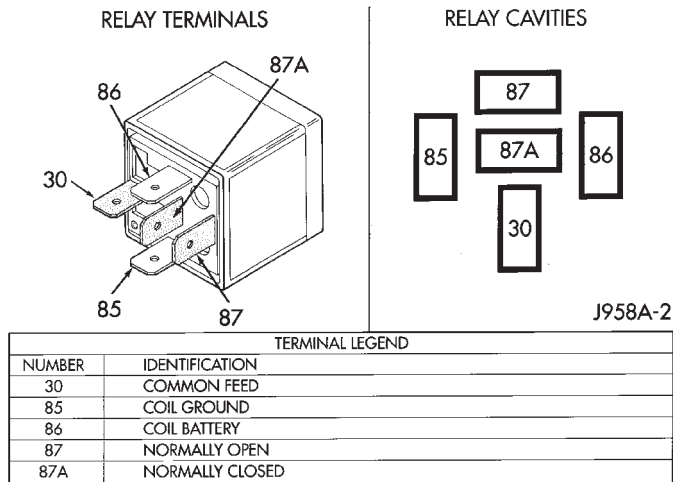

Fig. 13 Type-1 Relay
(14) If equipped with **type-1 relay** (Fig. 13), attach test leads from LCS adapter into PDC relay cavities number 30 and 87. For location of these cavities, refer to numbers stamped to bottom of relay (Fig. 13).